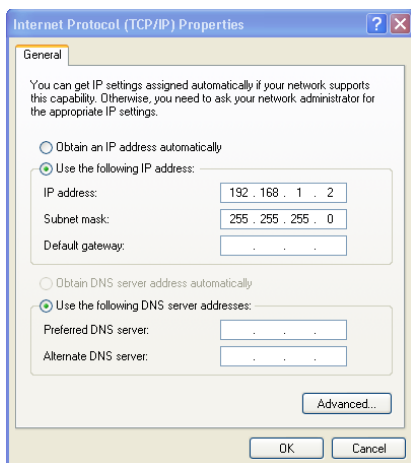

Figure 6: Internet Protocol (TCP/IP) Properties Window
6. Select Use the following IP Address, and fill in the details as shown in Figure 6. You can use any IP address in the range 192.168.1.1 to 192.168.1.255 (excluding 192.168.1.39) that is provided by your IT department.